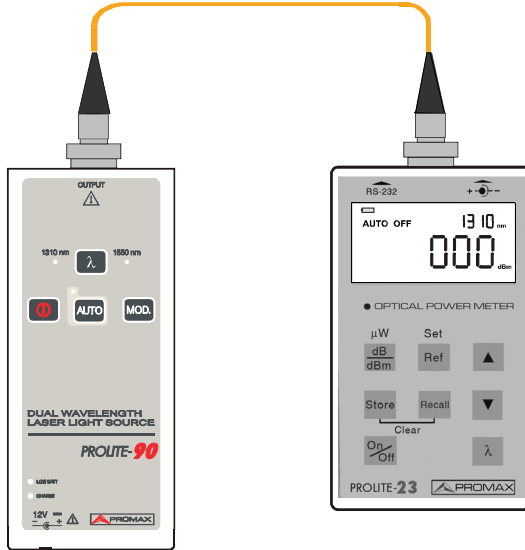

Figure 11.- Save reference power value
2. **Check the instrument status:** Ensure that the source is in Continuous Wave (CW) output mode. Set the optical power to the appropriate wavelength (using the [λ] key) and to dBm units (using the [dB/dBm] key). Note that only under the dBm mode, the reference power value can be set.
3. **Store the reference power value:** Press the [Ref] key for several seconds until “HELD” appears on the LCD screen, Prolite-23 will set the current measured dBm as reference value. The display should read 0.00dB, as shown in figure 11.